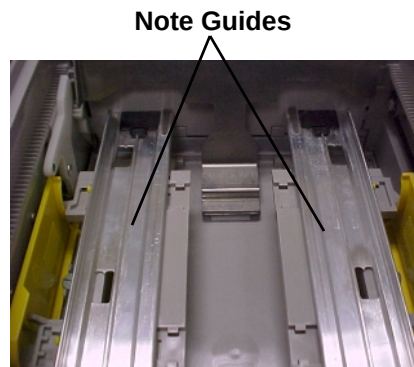

Figure 4
4. Identify the note guides (see Figure 4). There is a left note-guide and a right note-guide (“left” and “right” are as seen from the “front” or handle end of the cassette). The guides consist of spring-loaded rails attached to individual support assemblies. The support assembly provides the mechanism for adjusting the length setting of the guide-rail. The guide-rails can be moved closer or farther apart on their support assemblies, to accommodate currencies of various lengths.